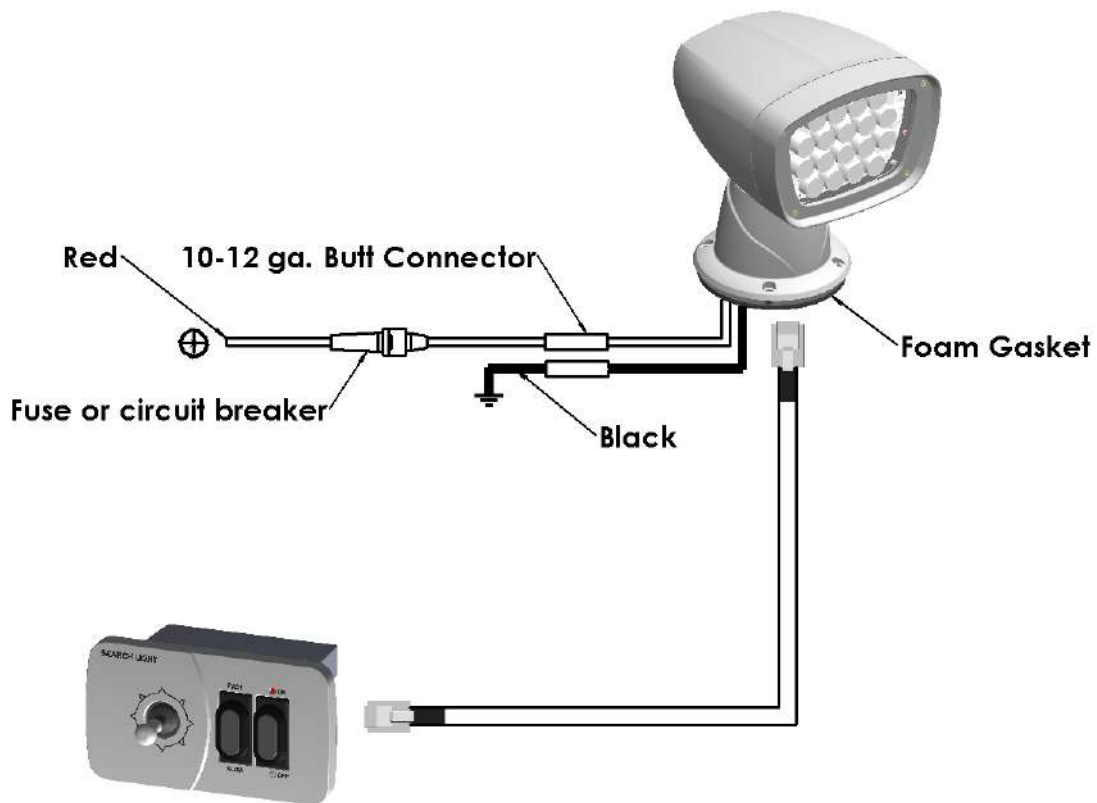

Fig. 6 Wiring Diagram of Joystick Controller and Searchlight
1. Provide DC12 Volt input power for 13.225.01 / 13.224.01, and DC 24 Volt input power for 13.225.02 / 13.224.02. See Fig. 6 below.